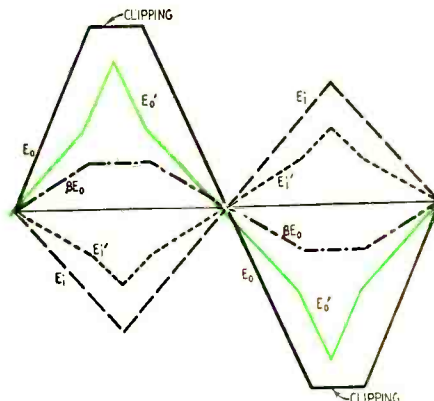

Fig. 3—Distortion reduced by feedback.
But such a simple statement does not give us any kind of picture of what goes on. Fig. 3 does give such a picture, and (in spite of its appearance) it is very easily explained.
In Fig. 3 we show a triangular wave, since it is easier to draw accurately and easier to evaluate when reading. The wave E_i is the signal connected to the amplifier input. The amplifier gain (A) before feedback is 2; therefore the output wave E_o is twice the amplitude of E_i . Because we have the transformer connections phased for negative feedback, E_o is 180 degrees out of phase with E_i .
Several inferences can be drawn from all this. First, it is not satisfactory simply to build an amplifier without regard for distortion and then look to negative feedback to clear it up. Feedback has a very salutary effect, but it is obvious from Fig. 3 that the less distortion there is in the first place the less there will be after feedback has done its work.